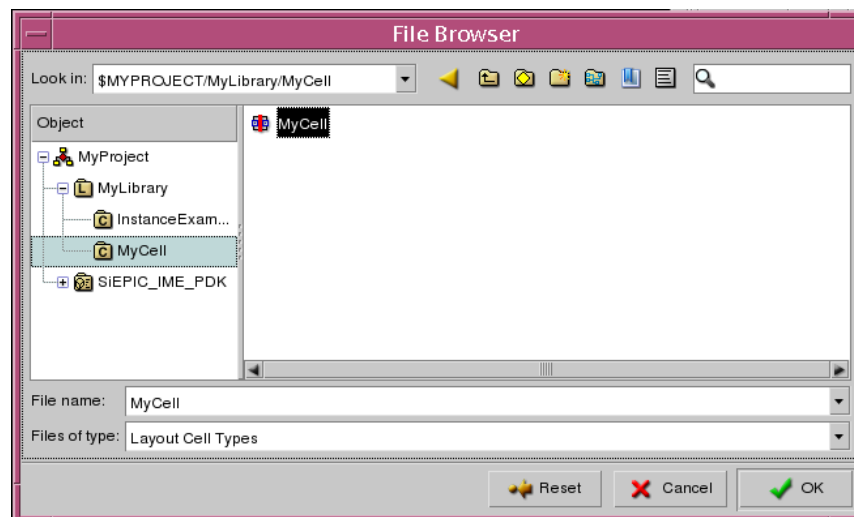

Figure 28: File Browser Dialog Box
4. Navigate to **MyLibrary/MyCell/MyCell** layout then select it (see Figure 28).